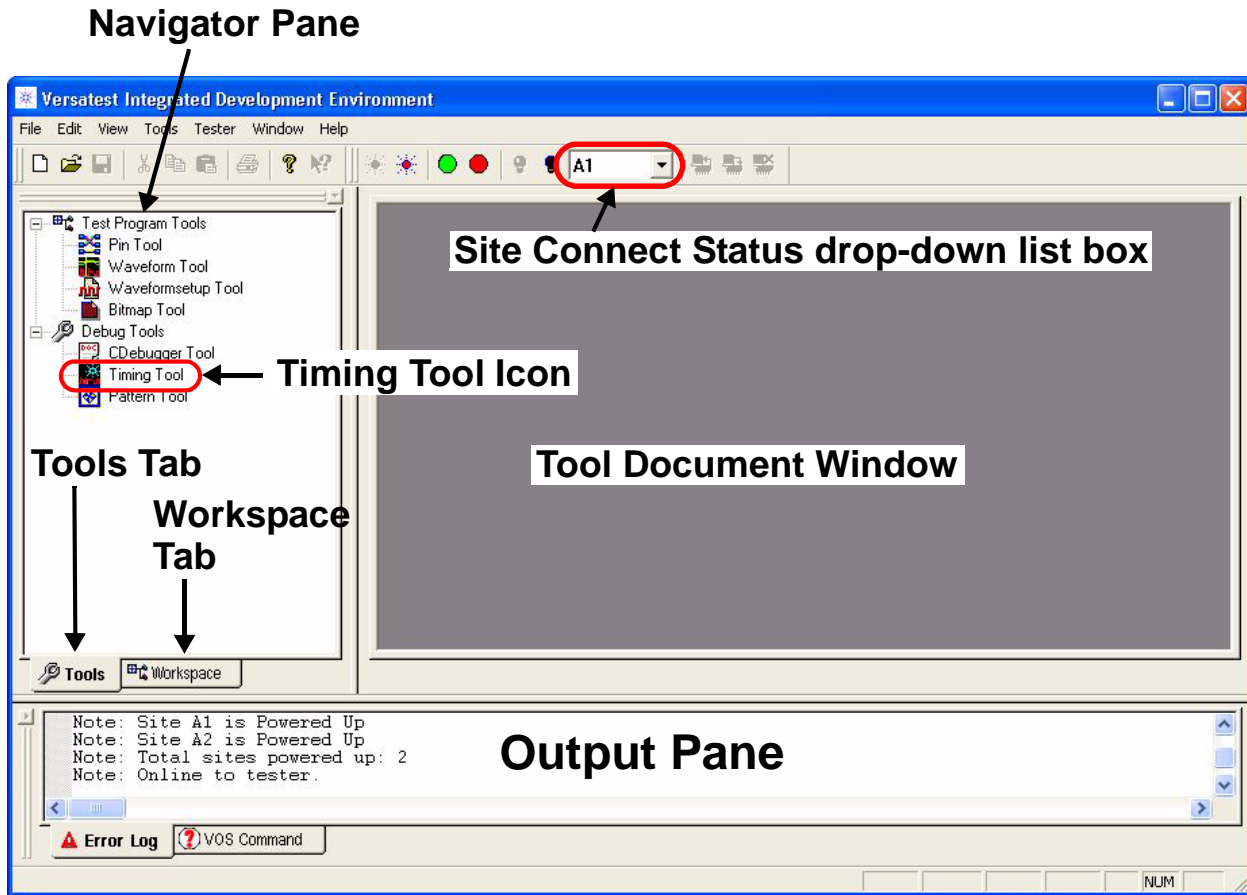
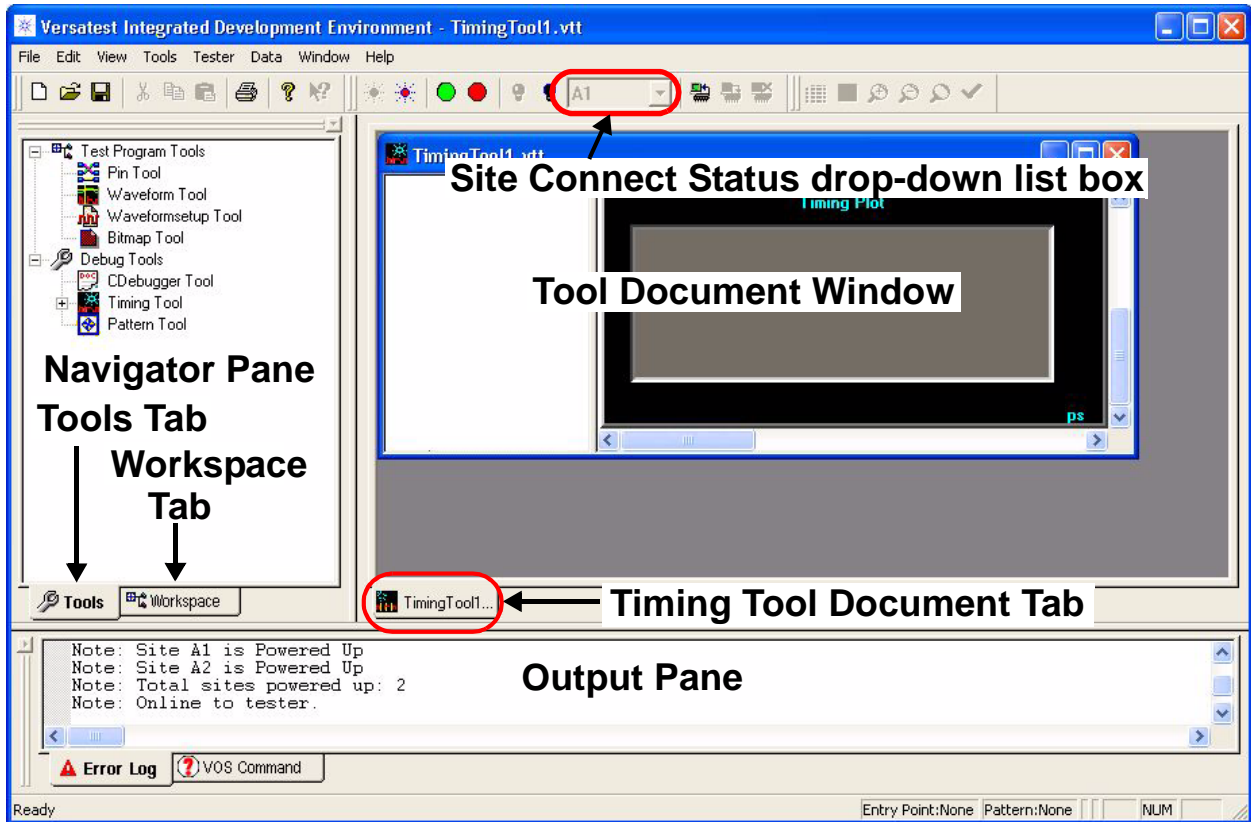

Figure 7-40. IDE Main Window Set Online
Figure 7-42. Timing Tool Default Graphical View
- 3 Selecting the yellow light bulb Set Online  toolbar button or corresponding Tester > Set Online command enables the IDE to connect to the tester when the Site Connect Status drop-down list box A1 is enabled as shown in the toolbar in (Figure 7-40).
- 5 Double-clicking the TimingTool icon under Debug Tools (Figure 7-40) displays the Timing Tool as the active tool in the Tool Document window (Figure 7-42). Selecting the tool makes the connection to that site and disables the Site Connect Status drop-down